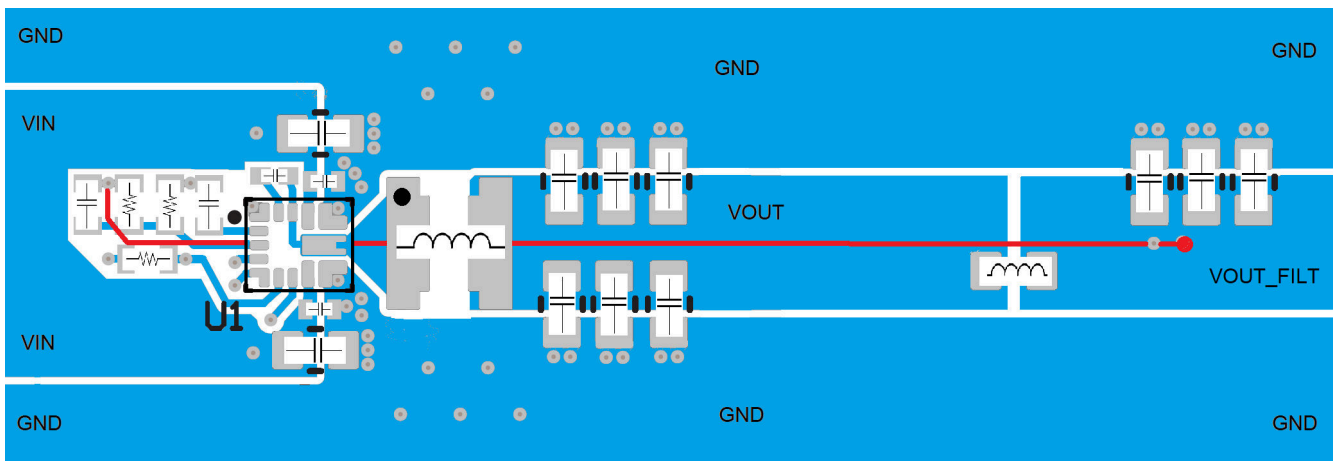

Figure 7-9. Recommended Layout for Design with Second L-C Filter
- Avoid placing the ferrite bead in the keep out region as shown in Figure 7-9
- See the recommended layout implemented on the EVM and shown in the EVM user's guide, TPS62968 Step-Down Converter Evaluation Module User's Guide, as well as in Figure 7-9.